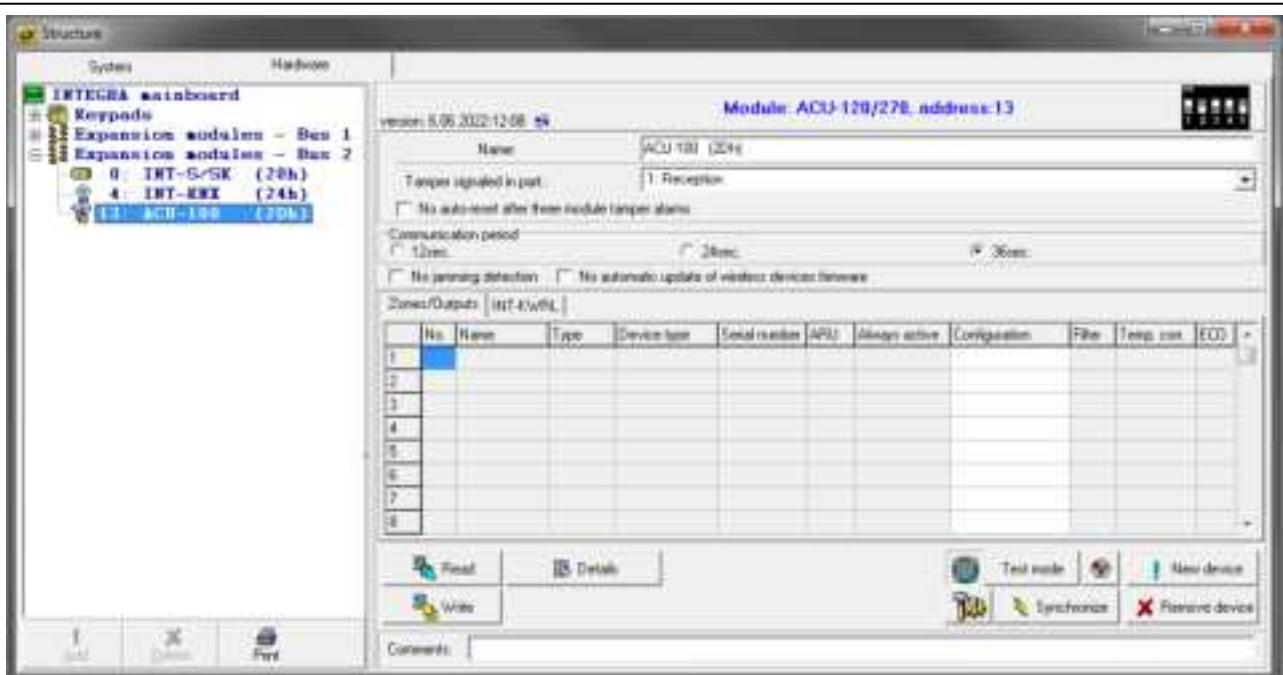

Fig. 24. DLOADX program: controller settings in the INTEGRA system.
- DLOADX program: “Structure” window → “Hardware” tab → “Expansion modules” branch → *[controller name]* (Fig. 24).